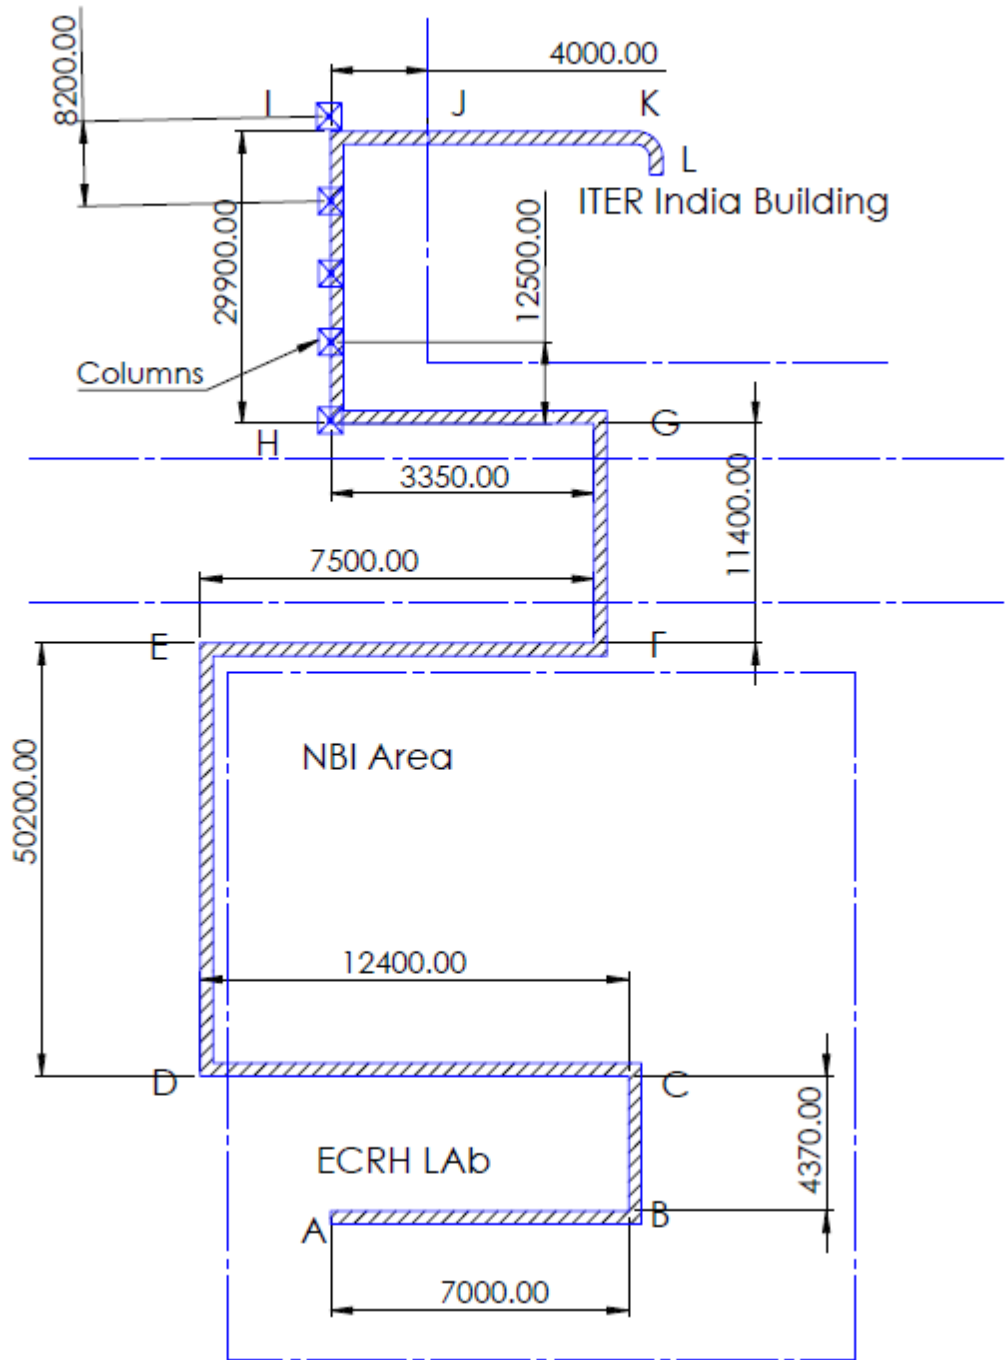

Fig 1 :Cable Route Lay Out
- Contractor has to fabricate wall mounted support of MS angles (size 50 x 50 mm, 6mm thickness) for cable tray length ~ 150 M (layout as per Fig 1) at ~10M height as stated in the drawing at interval of one meter.
- Contractor has to fabricate bridge for cable tray length approx. 30 m (from point H to point I in Fig 1) of MS 'C' channel size 150 x 75 mm, 5.7 mm thick and Angle size 50 x 50 mm, 6mm thick for supports of cable tray by welding the same with existing MS Structure as per situation at interval of one meter.